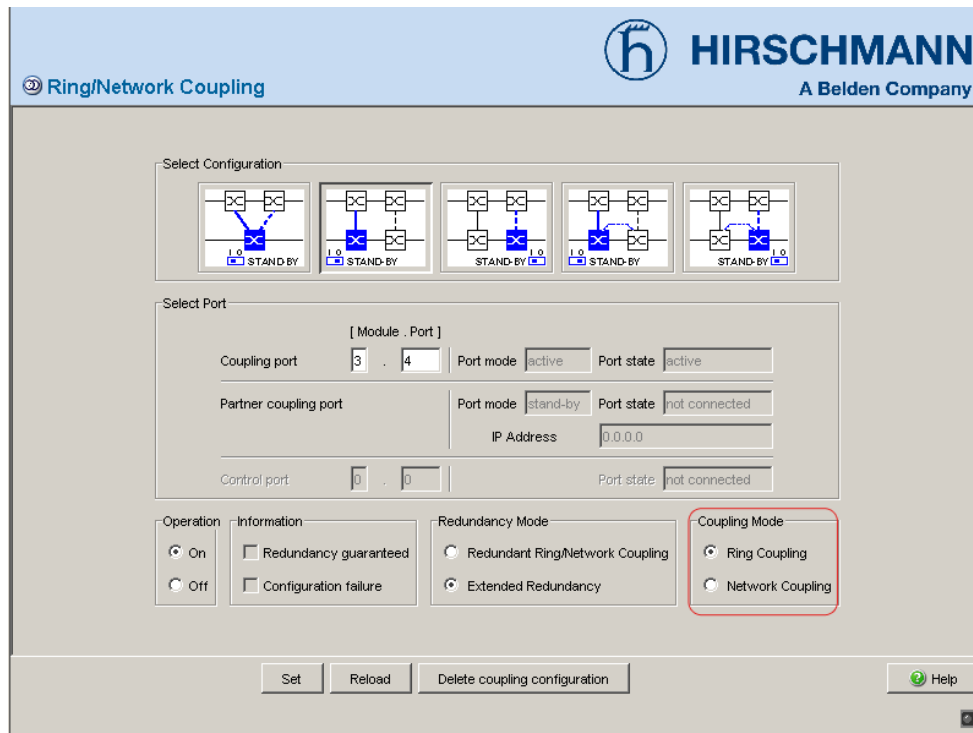

Figure 19: Selecting the coupling mode
- ☐ In the “Coupling Mode” frame, select (see fig. 19)